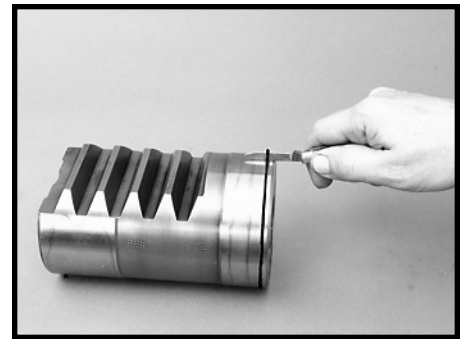

Figure 80
38. Remove and discard the rack piston backup "O" ring (35) from the rack piston. SEE FIGURE 80.